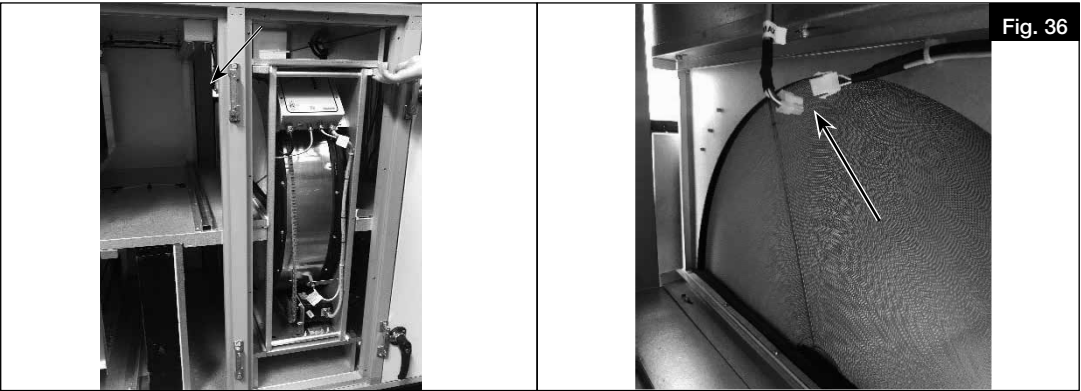

Fig. 36
2. Disconnect electrical connections from the drive module (see Fig. 36).